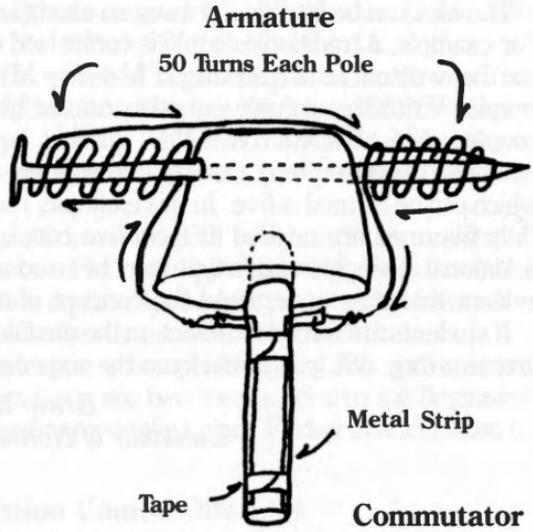

Figure 2
- 5) Cut two narrow (2-3 mm) strips from the evaporated milk can 5 cm long. Pierce a small hole in one end of each. Bend back the top ends and tape the strips securely to opposite sides of the glass tube (straight down from the nail). Fasten the wire through the holes in the metal strips (Figure 2). The rotor consisting of the armature and commutator is now complete.